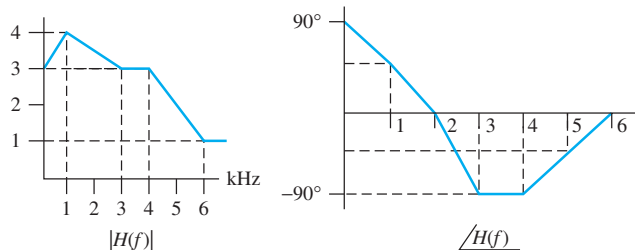

FIGURE P7.22 Frequency response for Problem 7.22.
- 7.22** (H) Find the output of the filter represented by the frequency response in Figure P7.22, given this input: